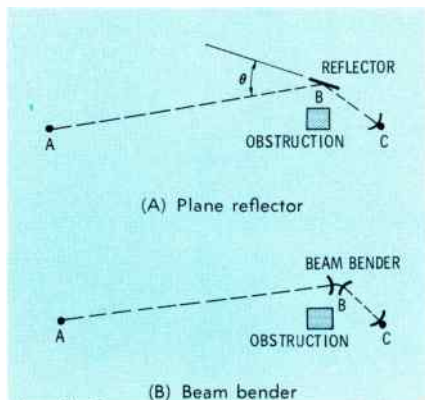

Fig. 1. Two types of passive reflector for directing signals around obstruction.
Another approach to solving this problem would be the use of two receiving dishes back-to-back, as shown in Fig. 1 (B).